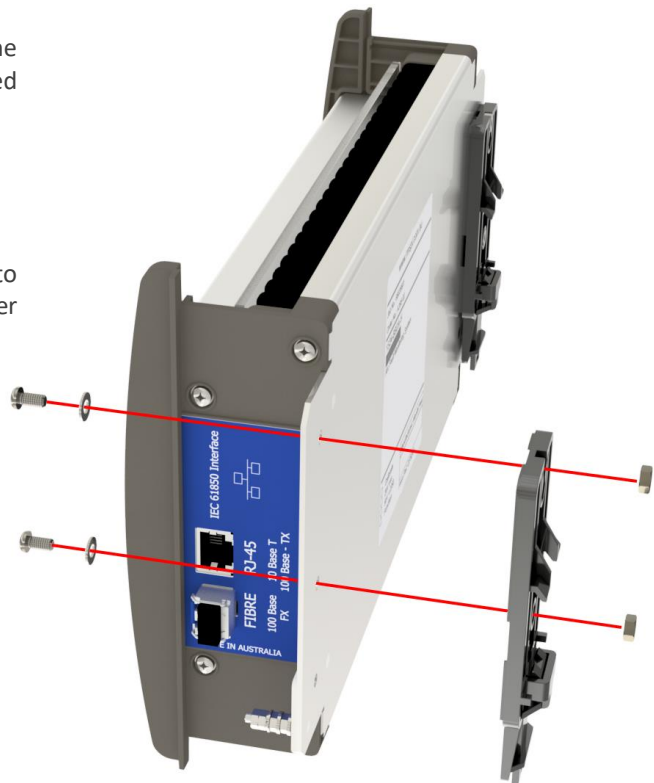

Figure 43: Fitting the DIN rail mounting kits
The 1S24 has provision to fit two (2) DIN rail mounting kits. The 1S24 may be ordered with the DIN rail kits fitted or ordered separately for fitment by the installer as per figure 43.